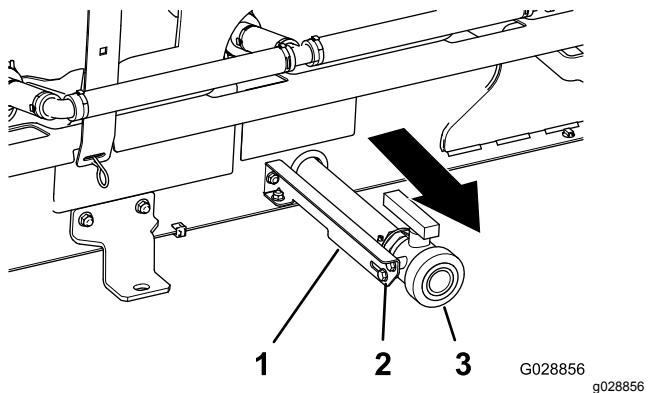

Figure 11
- A. At the left side of the tank, loosen the 2 flanged-head bolts that secure the drain valve to the valve-support bracket (Figure 11).
- B. Move the drain valve fully outward in the slots of the bracket (Figure 11).
- C. Tighten 2 flanged head bolts (Figure 11).